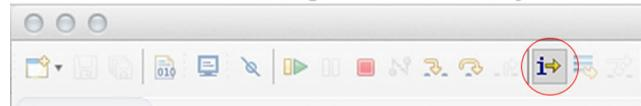
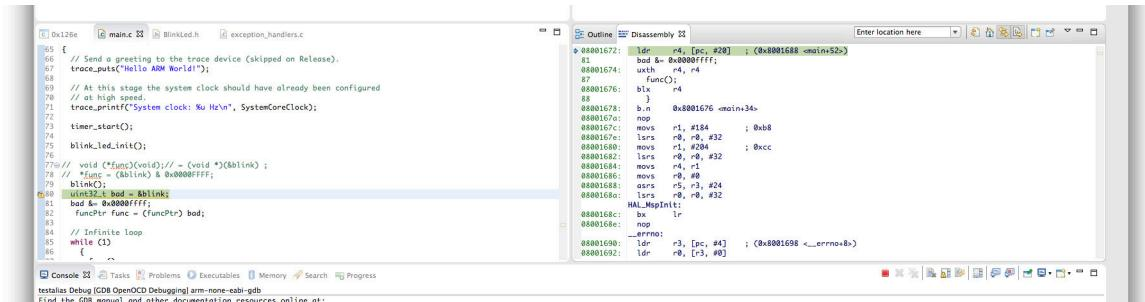

Figure 24.11: The *Instruction Stepping Mode* icon on the Eclipse toolbar
Figure 24.12: The disassembly view
*Instruction Stepping Mode* is enabled by clicking on the related icon on the Eclipse main toolbar, as shown in Figure 24.11. Once enabled, the *Disassembly* appears, as shown in Figure 24.12. Eclipse will automatically show the ARM assembly instructions corresponding to the current C instruction.